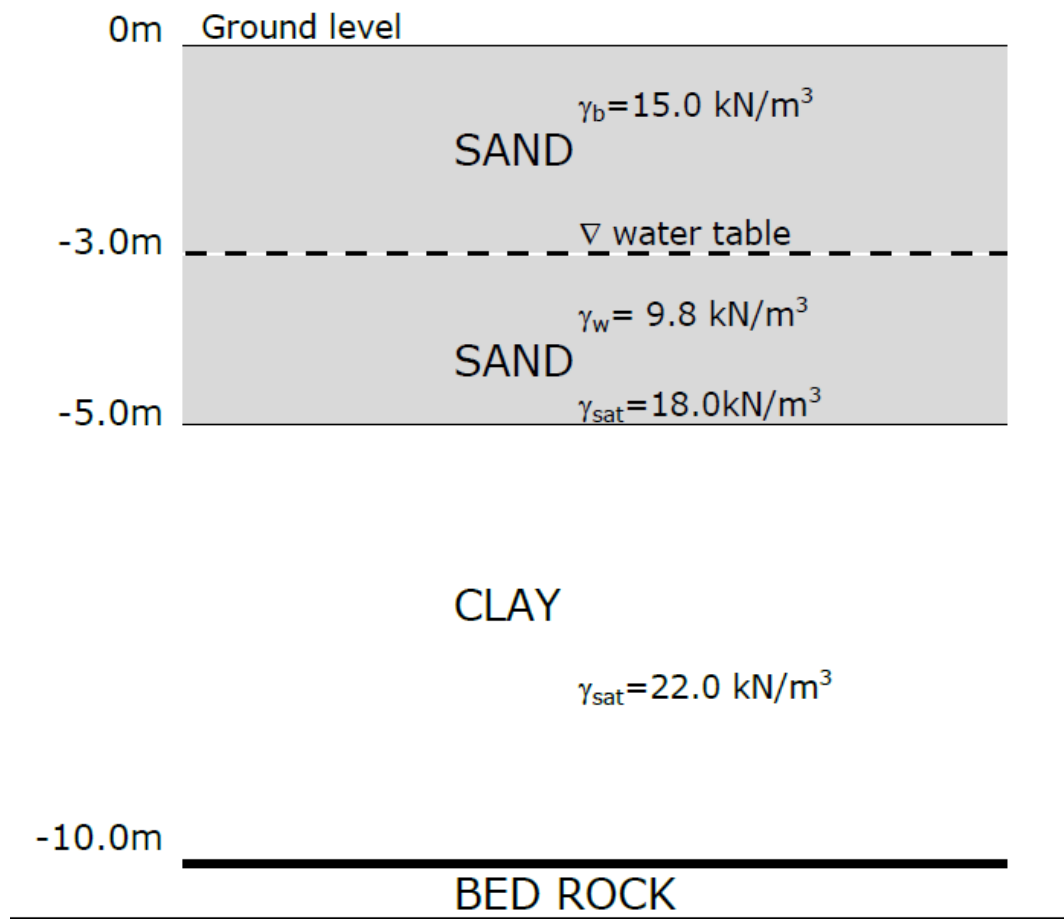

Figure Q4-1 Ground Conditions
for the ground condition shown below in **Figure Q4-1**
**Q4 Figure Q4-1 shown over the page...